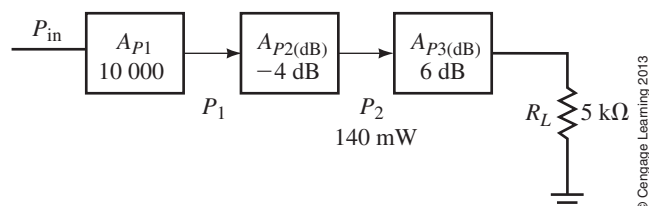

FIGURE 22-50
19. Given that power $P_2 = 140 \text{ mW}$ as shown in Figure 22-50. Calculate the power levels (in dBm) at each of the indicated locations. Solve for the voltage across the load resistor, R_L .